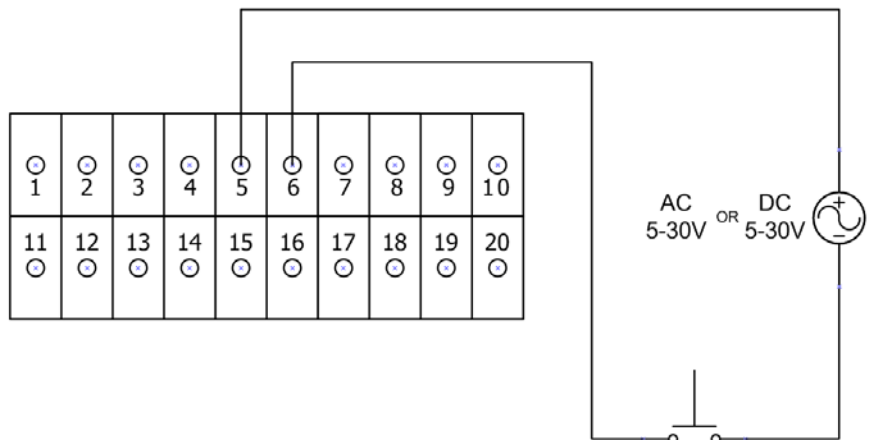

Figure 19. External Power Supply
- a. Connect the negative of your power supply to terminal 6 (see Figure 19).